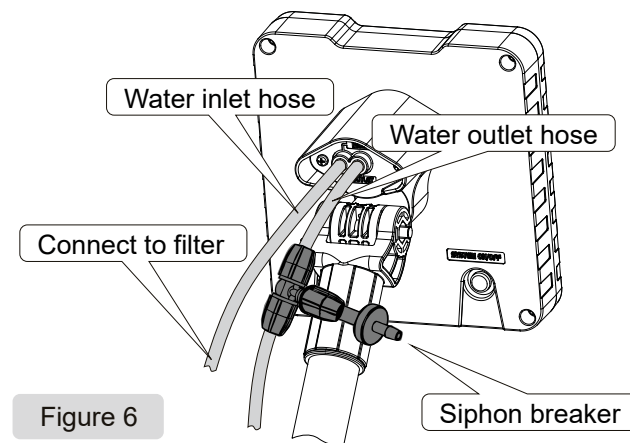

Figure 6
- 5) Roll out the water hose, estimate the distance from the water inlet of the irrigator unit to the bottom of your water reservoir. Cut the hose to a proper length that is long enough to cover the distance. Fit the hose to the water inlet as shown in **Figure 6**. Fit another end of the hose onto the connector of the filter.
- 7) Connect any of the two connectors on the siphon breaker to the water outlet on the control unit with a 20cm long hose cut from the main supply hose. Firm the connection between the hose and the water outlet with enclosed self-locking plastic cable tie and the connection between the hose and the siphon connector by tightening the screw nut on the siphon breaker connector as shown in the **Figure 6**. When connecting the hose to the siphon breaker, unscrew the relevant screw nut first. Another connector of the siphon breaker serves as an access point for the main water supply line.